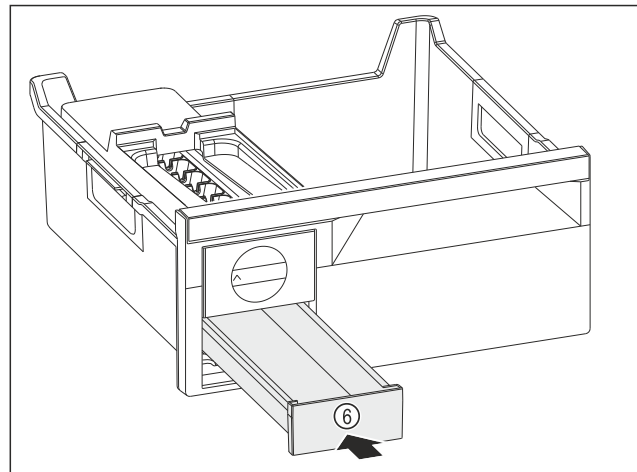

Fig. 135
- ▶ Insert the ice cube drawer Fig. 135 (6).